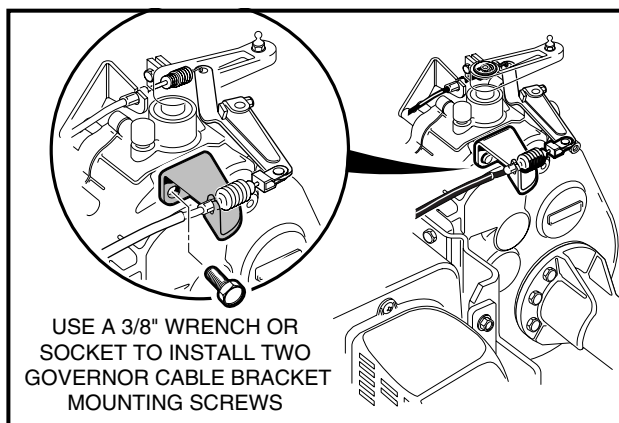

FIGURE 10-88
6. Install the governor cable bracket on transaxle casing. Use a 3/8" socket to install the mounting screws (**Figure 10-88**).